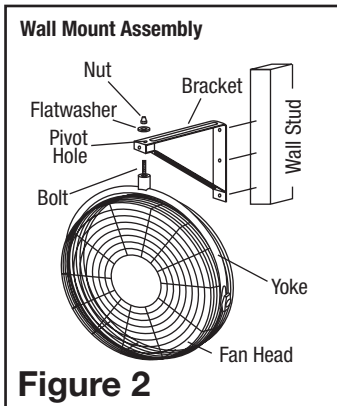
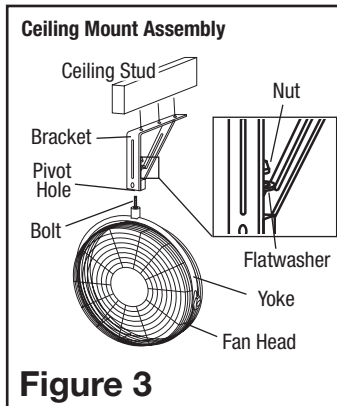

Figure 2
Figure 3
2. Locate the wall or ceiling stud nearest to the desired Fan location. Following the proper mounting diagram, attach the bracket to the stud using three (3) 5/16" diameter x 2" long lag screws (Not Supplied) or appropriately sized bolts and nuts if attaching to "I" beams.
3. Insert Bolt through Yoke, Bracket, Pivot Hole, and into Locknut (Figure 2) or (Figure 3).